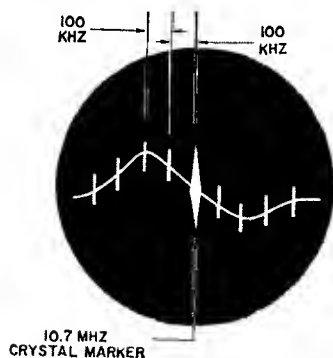

Figure 11.2 Typical 10.7 MHz Discriminator Response Curve with 100 KHz Markers Added
- 11.1.1.11 Remove the direct cable connection from the i-f alignment test point and reconnect it to the discriminator or detector test point as specified in the alignment instructions. A typical discriminator "S"-curve is shown in Fig. 11.2. The discriminator bandwidth requirements vary among manufacturers. The use of the 100 KHz markers enables the operator to identify any bandwidth required. In addition, it is possible to interpolate between the 100 KHz markers to obtain additional frequency resolutions when performing i-f and discriminator alignments.